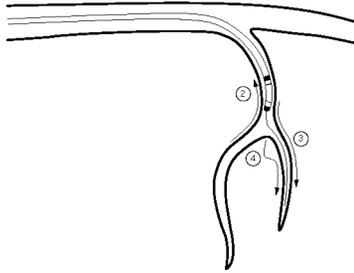

Figure 18. Using a guide wire within a branch vein.
2. To access the side branch retract the lead and guide wire proximal to the vein bifurcation and direct the guide wire into the side branch (Figure 18).
3. Advance enough wire ahead of the lead to anchor the wire in the side branch to prevent the lead from reforming its J shape (Figure 18).
4. Track the lead over the wire into the side branch (Figure 18).